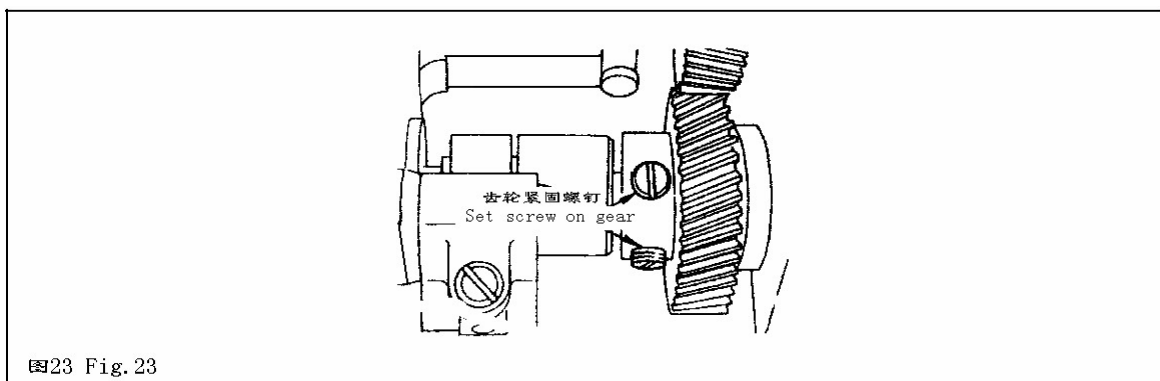

图23 Fig. 23
18、The timing of looper in reference to needle(Fig.23)
the bottom dead centre; loosen the screw on the gear and make riming adjustment of the looper in relation to the needle (refer to Fig.23).